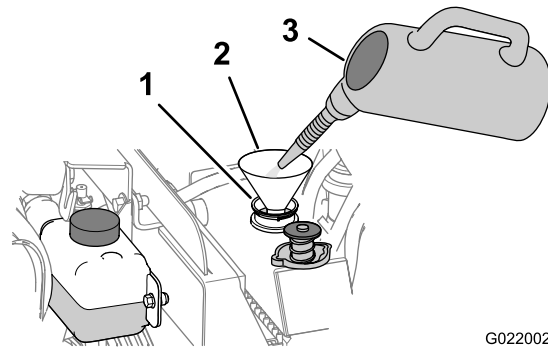

Figure 82
- C. Add a cooling system cleaning solution to the to the radiator through the filler neck (Figure 82).